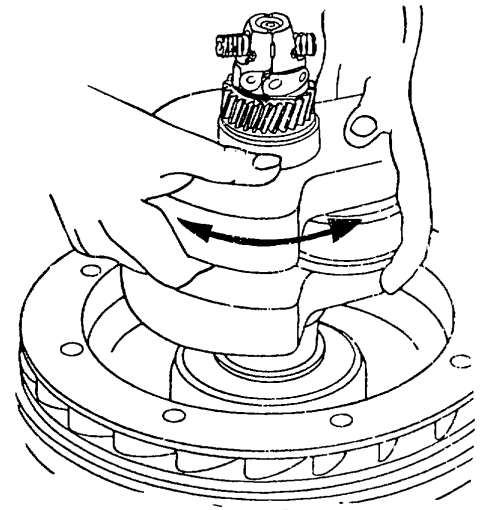

Figure A-76. Installation of New Crankshaft or Flywheel
b. **Installing a New Crankshaft or Fly wheel:** Before installing a new crankshaft or flywheel, the crankshaft taper must be ground into the tapered bore of the flywheel. Apply grinding compound to the crankshaft taper. Slide the crankshaft into the flywheel bore. Rotate the crankshaft in the flywheel bore until a good finish is obtained. Thoroughly wash away all grinding compound with diesel fuel or gasoline. (Figure A-76).